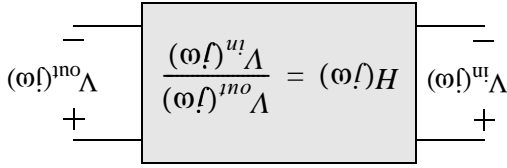

Figure 1 — Abstract two-port representation of a filter circuit.
Filters are important blocks in all communication and instrumentation systems. A filter is abstractly represented in terms of the transfer function,  $H(j\omega)$ , as shown in Figure 1. Filters are often categorized depending on the frequency domain behavior of the transfer function magnitude. Ideal frequency responses for lowpass, highpass, and *bandpass* filters are shown in Figure 2.
- The input impedance of the filter ( $Z_{in}$  in Fig. 1) should be sufficiently large compared to the signal-source output impedance which is 50 $\Omega$ .